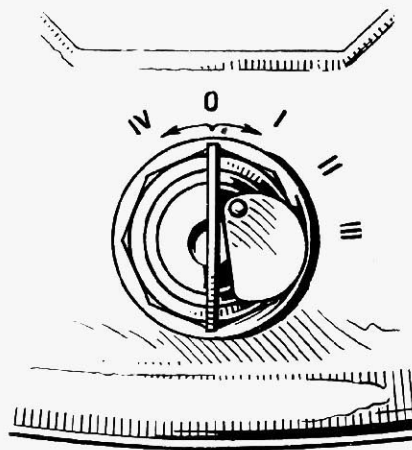

Fig. 10
The main key switch controls the starting, lighting and ignition circuits; it is placed on the instrument panel and arranged conveniently to the rider's hand. There are 5 key positions, as clearly indicated in the fig. 10.
- insert the key into the main switch hole, push it in as far as it will go and rotate it to the right to get the desired position (fig. 10).